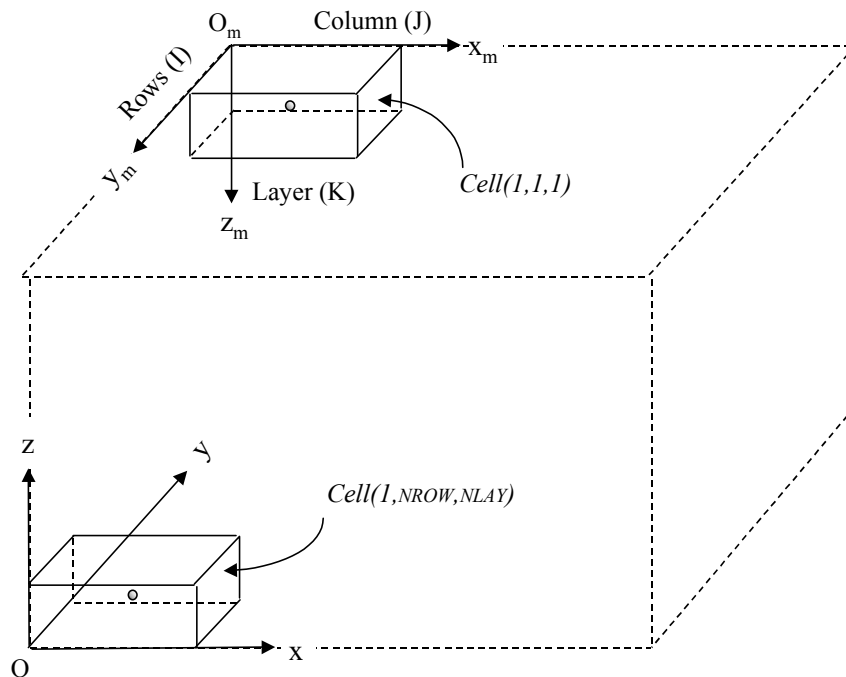

Figure 1. Transformation from the model internal coordinate system to the coordinate system used by the PM program for plotting purposes.
It should be pointed out that in MT3DMS/MODFLOW, the origin of the internal coordinate system (O_m) is set at the upper, top, left corner of the cell in the first column, first row and first layer, i.e., cell (1, 1, 1) and the positive x, y and z coordinates are in the directions of increasing column, row, and layer indices, respectively (Figure 1). However, in the output files generated by PM, the origin (O) is transformed to the lower, bottom, left corner of cell in the first column, last row and last layer, i.e., cell (1, NROW, NLAY) (Figure 1), as is customary in most graphical packages. As a result, the y and z axes used in MT3DMS/MODFLOW are reversed by PM whereas the x axis remains the same.